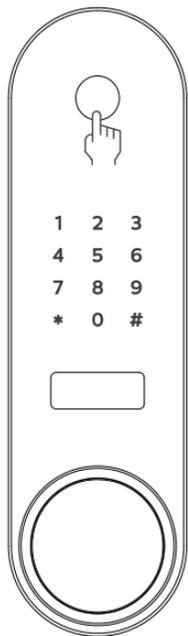

Figure 2
1. Open safe door and press the red setting button '⚙️' on the battery compartment. After hearing a voice prompt 'Please enter fingerprint or PIN code', enter your fingerprint as shown in Figure 2. A voice prompt 'Fingerprint entering succeeded.' indicates successful operation. If the entering fails, there will be a voice prompt 'Fingerprint entering failed'. The system will automatically exit if there is no entering in 8 seconds.